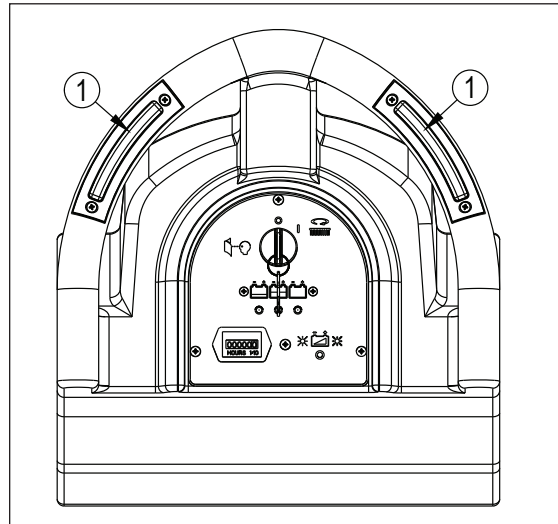

Figure 9
2. When either pad power switch (1 - figure 9) is pushed in, the pad motor will start.